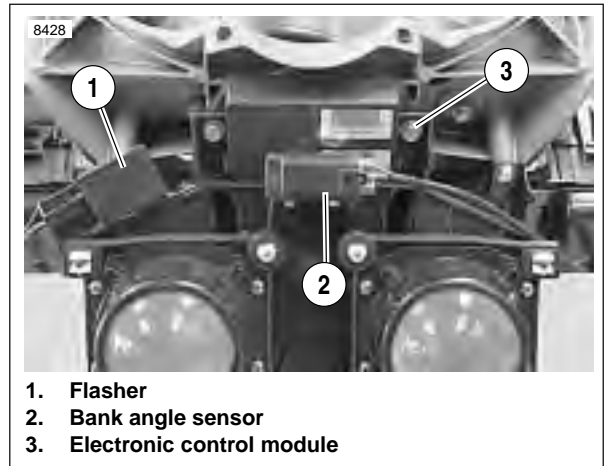

Figure 2-101. Headlight Support Bracket
4. See Figure 2-101. Disconnect flasher (1) and bank angle sensor (2). Remove electronic control module fasteners (3).
1. See Figure 2-101. Remove bank angle sensor (2).
2. Connect headlight bulb (8) connector (white) into wire-harness.
4. Install black rubber cover (4).
5. See Figure 2-101. Install bank angle sensor connector case (2). Tighten to 12-36 **in-lbs** (1-4 Nm).
6. Install flasher (1) and tighten to 36-60 **in-lbs** (4-6.7 Nm).
7. See Figure 2-101. Install electric control module.
- b. Tighten electronic control module fasteners (3) to **72-96 in-lbs** (8-11 Nm).
8. See Figure 2-101. Connect flasher (1) and bank angle sensor (2).